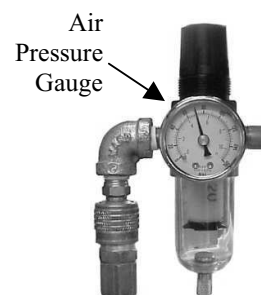

Figure 4-3
- Air Pressure Gauge: provides a visual means of monitoring the pressure applied to the system (Figure 4-3).